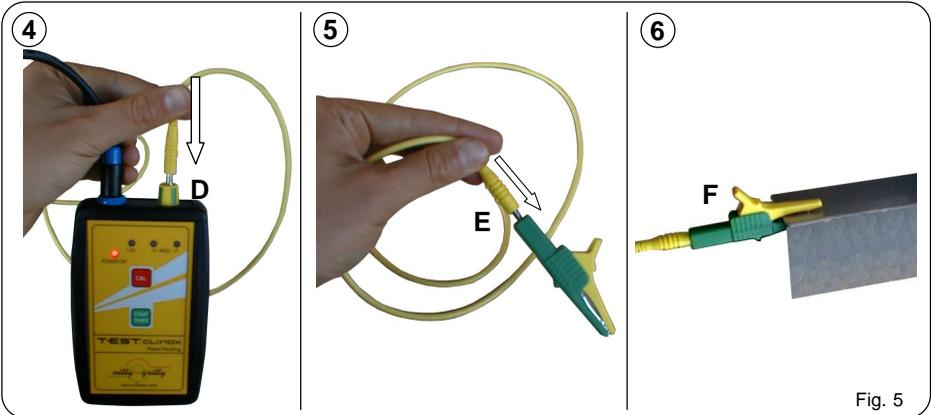

Fig. 5
- 4 Connect the earthing cable to the instrument by fitting the plug into the second socket (D, Fig. 5).
- 5 Plug the other end of the cable into the appropriate socket (E, Fig. 5) for the earthing terminal;
- 6 Clip the earthing terminal (F, fig. 5) onto the conductive metal on which you wish to calibrate the instrument.